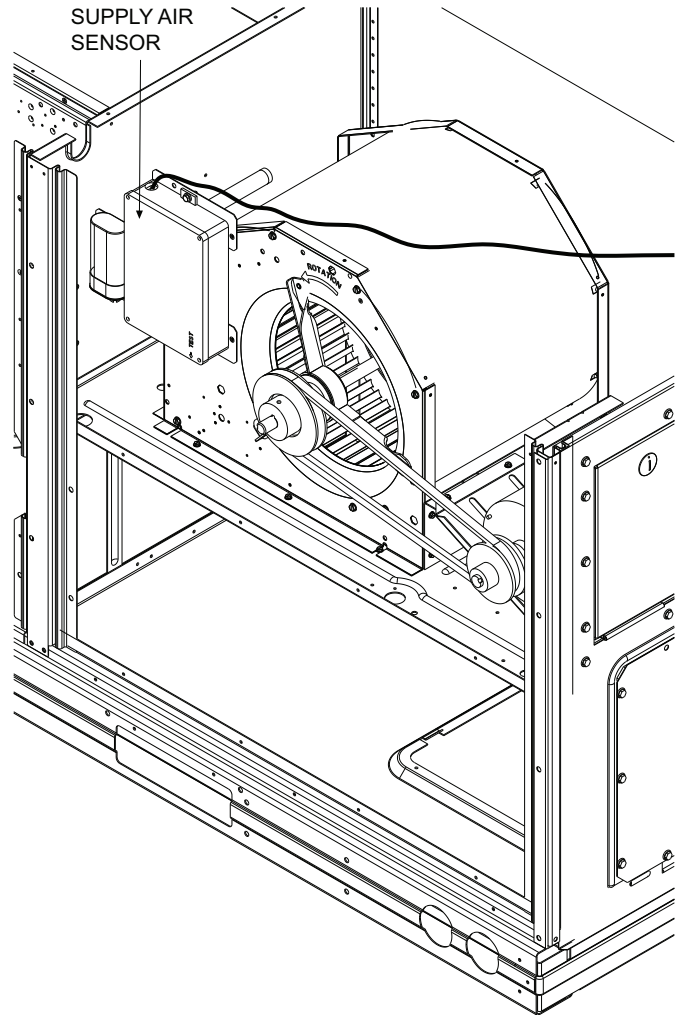

Fig. 15 — Supply Air Sensor Mounting Location
- a. For 48/50TC, 580J, 558J, 548J, RGS, RAS, RHS units (3 to 6 tons) and 48/50HC, 581J, 551J, 549J, RGH, RAH, RHH, 48/50LC, 48/50KC, 582J, 559K, 547J, RGX, RAX, RHX units (3 to 5 tons), refer to Fig. 15. Remove $\frac{7}{8}$ -in. knockout on the left side of the blower. Using two #8 screws, attach the sensor to bracket (50HJ542422), orienting the intake on the sensor such that it will align with the knockout on the blower. Insert the $\frac{27}{8}$ -in. pickup tube (48HG503589) into the intake on the sensor so that the hole in the tube will be in the air stream. Attach the sensor's bracket to the blower.
- b. For 48/50TC, 580J, 558J, 548J, RGS, RAS, RHS units (7.5 to 15 tons) and 48/50HC, 581J, 551J, 549J, RGH, RAH, RHH, 48/50LC units (6 to 10 tons), refer to Fig. 15. Remove $\frac{7}{8}$ -in. knockout on the right side of the blower. Using two #8 screws, attach the sensor to bracket (48TM002384), orienting the intake on the sensor such that it will align with the knockout on the blower. Insert the $\frac{27}{8}$ -in. pickup tube (48HG503589) into the intake on the sensor so that the hole in the tube will be in the air stream. Attach the sensor's bracket to the blower.